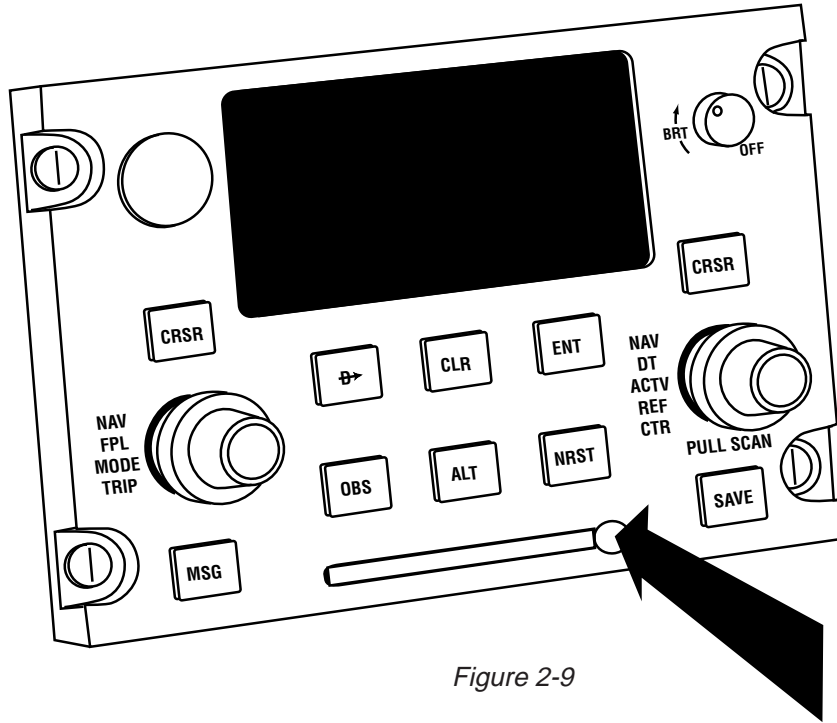
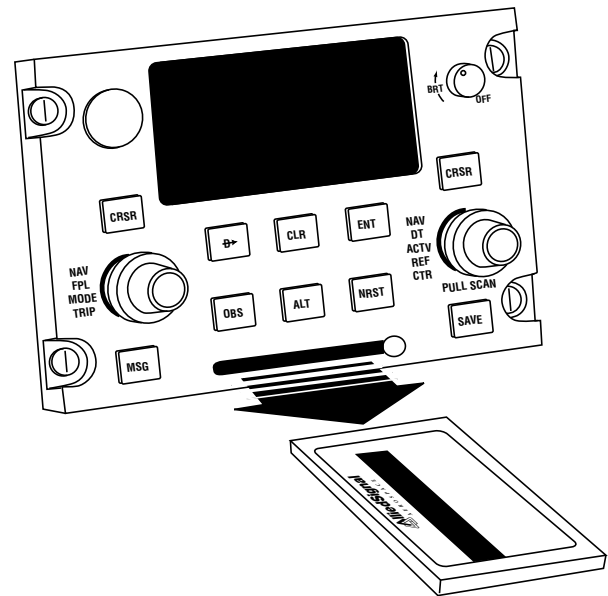

Figure 2-9
Figure 2-10
1. To exchange the KLN 900's database card simply turn the unit power off and remove the card from the front of the unit. This is accomplished by depressing the ejection button on the right side of the card (figure 2-9) and then pulling the card straight out of the front of the KLN 900. (figure 2-10)